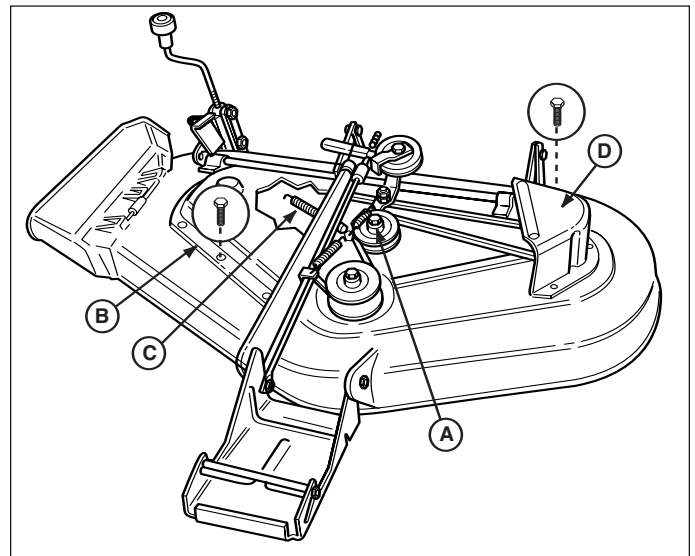

Figure 42. Mower Deck - 44" & 50" Mowers
4. See Figure 42. Remove three capscrews securing left-hand arbor cover (D).
7. See Figure 42. Reinstall the left-hand arbor cover (D). Reinstall the mower deck if removed.